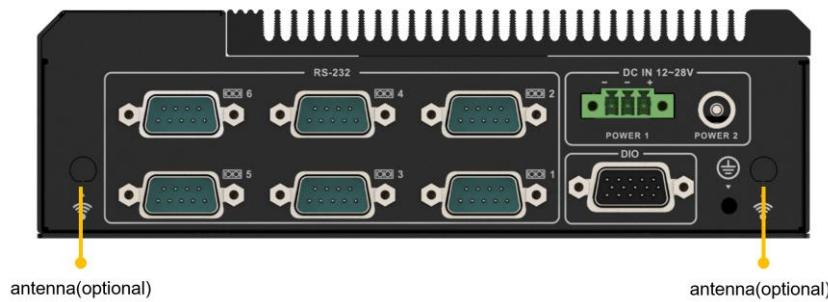

Figure 3-5: Knockout Holes for Wireless Antenna
Step 2: Remove the two knockout holes for antenna installation. The two knockout holes are located on the rear panel of the TANK-630-EHL Series as shown in Figure 3-5.